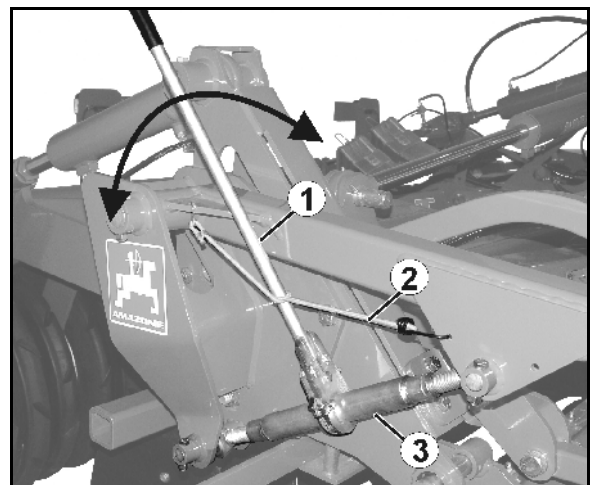

Fig. 39
1. Release hand lever (Fig. 39/1) from tensioner (Fig. 39/2).
4. Extend/shorten spindle (Fig. 39/3) by means of the hand lever.